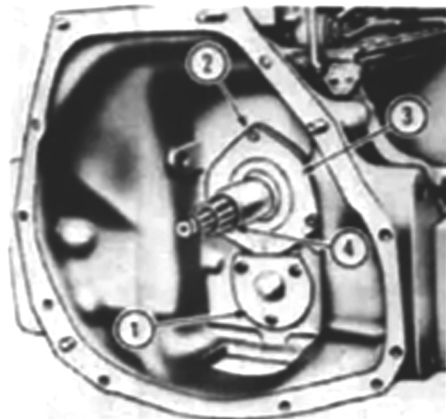

Fig. 64 - Front view of clutch housing with release bearing, fork and shaft removed.
Refer to Fig. 64 and unbolt and remove pto bearing retainer cap (1). Remove snap ring from end of pto driven shaft, then bump shaft rearward out of bearing and pto driven gear. Remove driven gear through bottom opening in housing. Remove snap ring from front end of TA and speed transmission countershaft and slide TA pump drive gear and TA driven gear from countershaft.